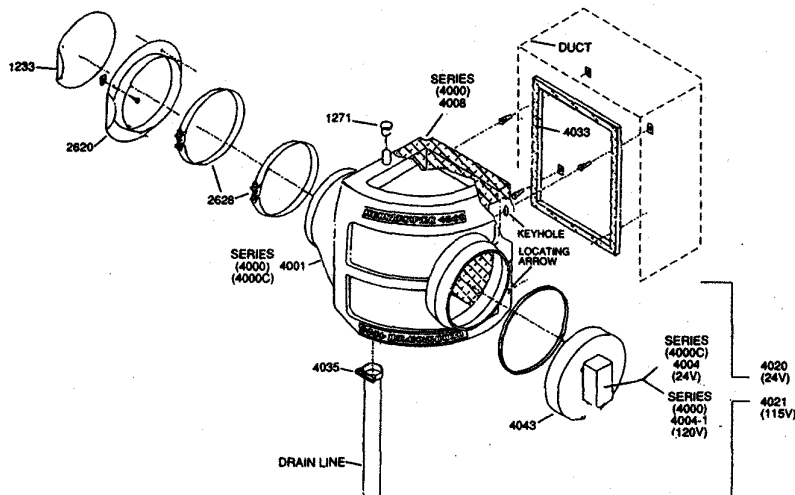

FIGURE 1 - INSTALLATION/HARDWARE
1. For best results, the unit should be located on the return air side of the system. However, if space does not permit, it can also be located on the supply (warm air) side of the system. Capacity will be reduced when mounted on the supply side. The bypass connection can be made to the left or right side of the unit. Regardless of where the unit is mounted (supply/return air) or left/right connection, the end cap must always be positioned so that the water connection is at the BOTTOM of the humidifier. See FIGURE 1.
2. To mount on **sheet metal duct** begin by drilling $\frac{5}{32}$ " diameter holes and cutting opening as marked on template. Remove template, install the four (4) sheet metal screws with standoffs using spring nuts provided, then place the foam seal around the opening on the plenum. See sketch below. Remove end cap from the notched end of the humidifier. Check that evaporator pad is in the proper position, then "hang" the humidifier on the mounting screws. Unit may be hung with outlet flange pointing left or right as required. Note the directional arrows located on the housing. Remove the plastic protective cap from nozzle and then snap end cap onto the humidifier with the pigtail water connection at the bottom of the cap.